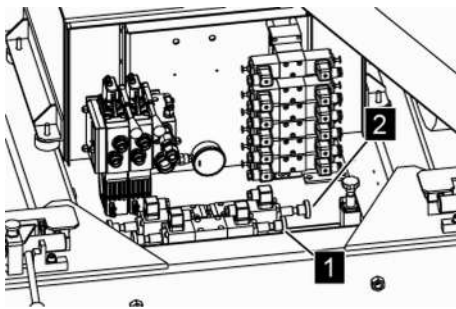

Fig. 140: Shuttle valve
7. ➔ After service operation, unlock the shuttle valves (Fig. 140/1 and 2).
- Make sure that for normal operation, the shuttle valves (Fig. 140/1 and 2) are completely unlocked.